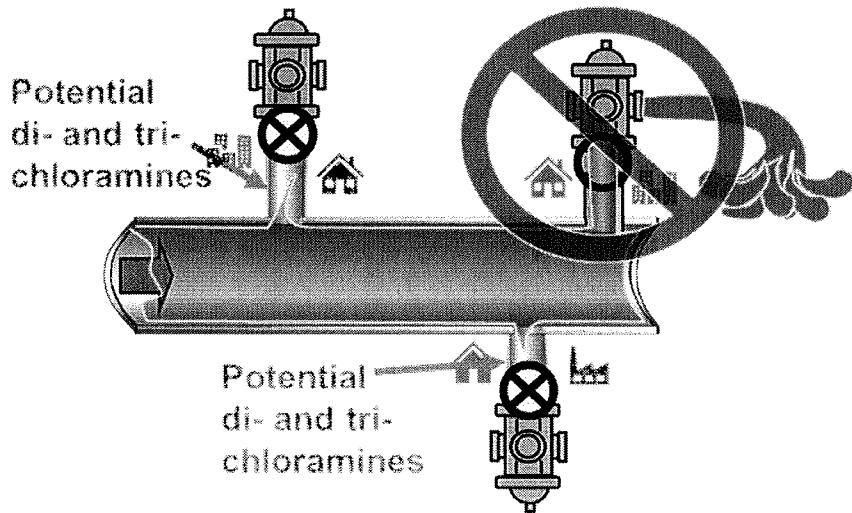

Figure 4. A distribution system with three branches and flush points at the end of each branch.
**Do not open the farthest valves first.** Figure 4 illustrates a distribution system. Each branch represents a different part of your system with a flush location at the end of each branch. Starting the flush at the farthest point in the distribution system may promote the formation of stinky di- and tri-chloramine at points closer to the source.